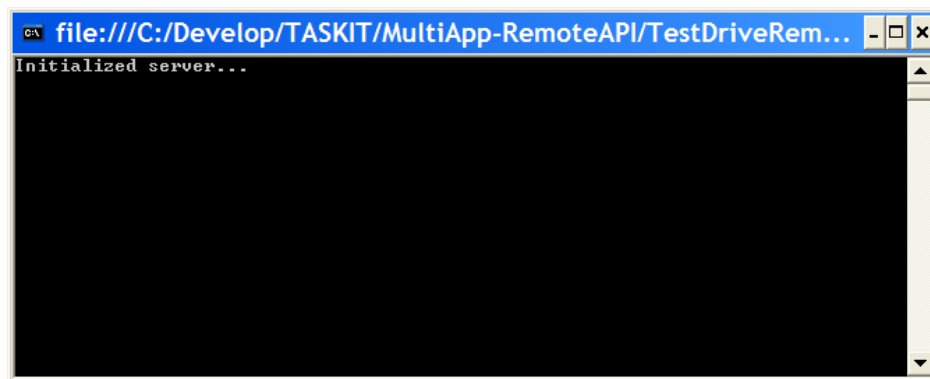

Figure 5-2: Server Initialization Window
1. Start the Server. The Command window displays, as shown in Figure 5-2.